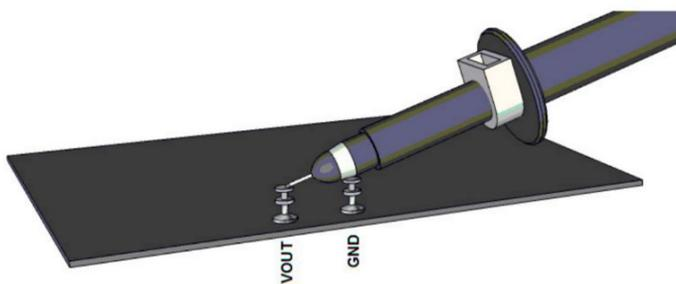
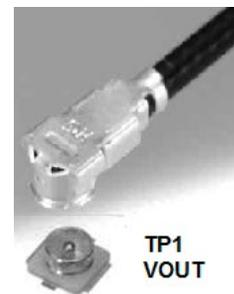

Figure 3a. Technique for Measuring Output Ripple and Step Response
Figure 3b. Technique for Measuring Output Ripple and Step Response with a Low Inductance Connector (Not Supplied)
NOTE: For accurate V_{IN} , V_{OUT} and efficiency measurements, measure V_{IN} at the VIN SNSE and GND SNSN turrets, and measure V_{OUT} at the VOUT SNSE and GND SNSE turrets. When measuring the input or output ripple, care must be taken to avoid a long ground lead on the oscilloscope probe. It is recommended to use technique shown in Figure 3a and Figure 3b for basic ripple measurement.
3. Connect an oscilloscope voltage probe as shown in Figure 3a, between VOUT1 SNSE and GND1 SNSE turrets. Set channel to AC-coupled, voltage scale to 20mV, and time base to 10µs/div. Check VOUT1 ripple voltage. Output voltage ripple can also be measured with a low inductor connector on TP1, as shown in Figure 3b.